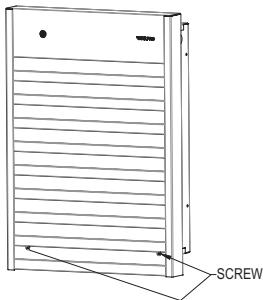
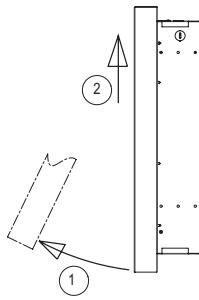

FIG. 4
FIG. 5
2. Unscrew the two (2) screws holding the grid (see figure 4). Raise the bottom and gently pull up to release the grille (see figure 5).
2. Unscrew the two (2) screws holding the grid (see figure 4). Raise the bottom and pull up to release the grille (see figure 5).